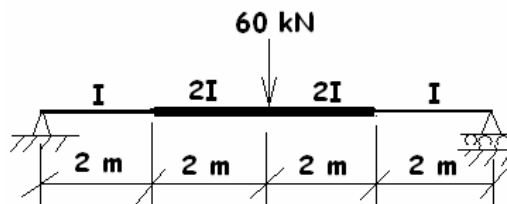

Figure.1
b) Determine the central deflection for the beam of Figure.1 by using unit load method. Take $E=2 \times 10^5 \text{ N/mm}^2$, $I=4 \times 10^7 \text{ mm}^4$.